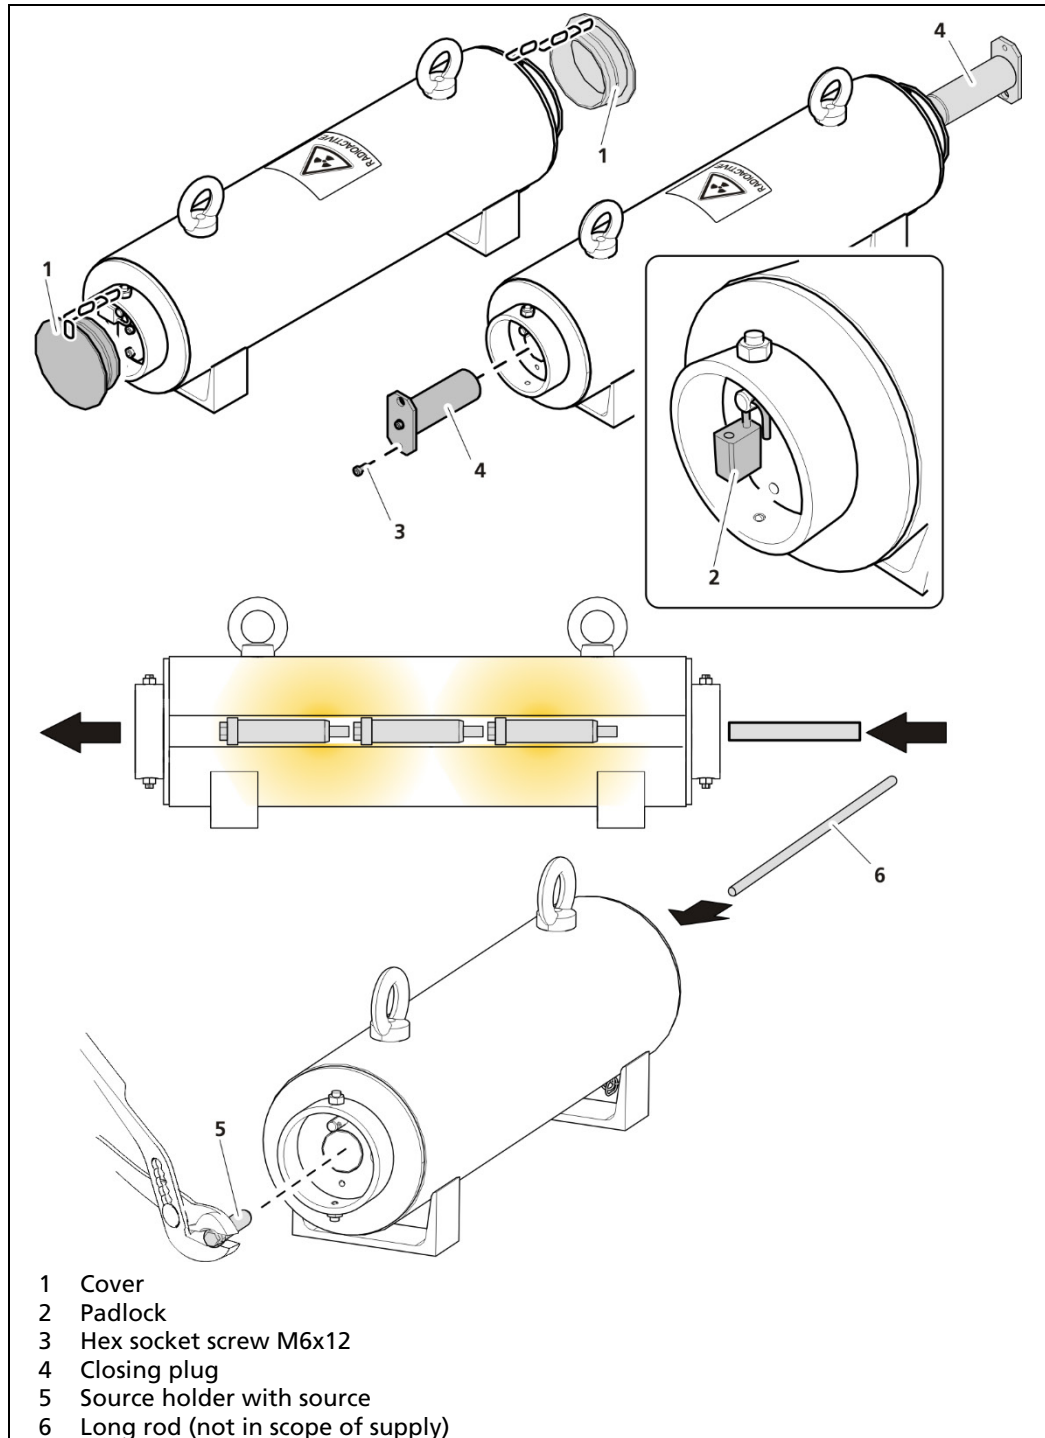

Fig. 4 Removing point sources
1. Remove the covers (Fig. 4, Item 1).
2. Remove the padlocks (Fig. 4, Item 2).
3. Loosen the hexagon socket screw (Fig. 4, Item 3) and remove the closing plugs (Fig. 4, Item 4).
5. If several sources are installed, insert a long rod (Fig. 4, Item 6) into the opening to push the sources out of the transport shield.